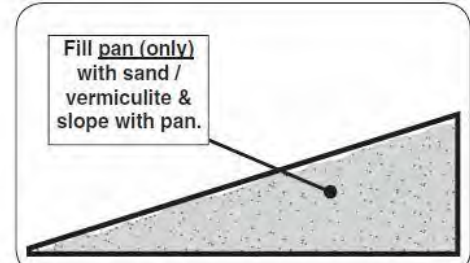

Fig. 19-2 Sand/vermiculite detail
- 2. Slope the sand/vermiculite at the same angle as the burner pan. This is important to ensure quiet lighting and even flame distribution. See Fig. 19-2.